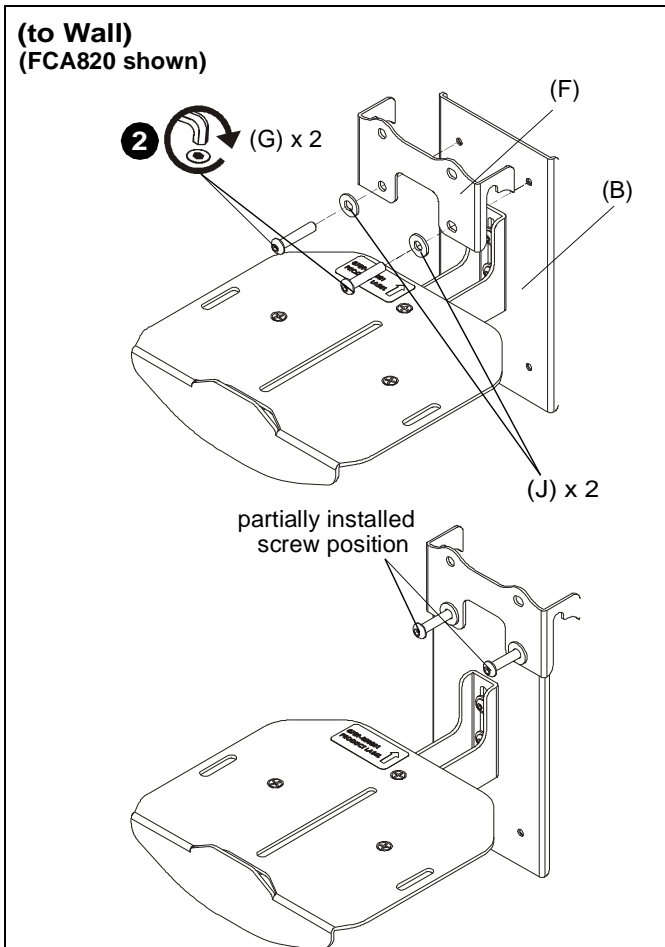

Figure 6
2. Use two 1/4-20 x 1 1/4" button head cap screws (G) and two 1/4" washers (J) to partially attach one center holder (F) to center plate (B). Do NOT install screws too far or installation to wall mount will not be possible. (See Figure 6)